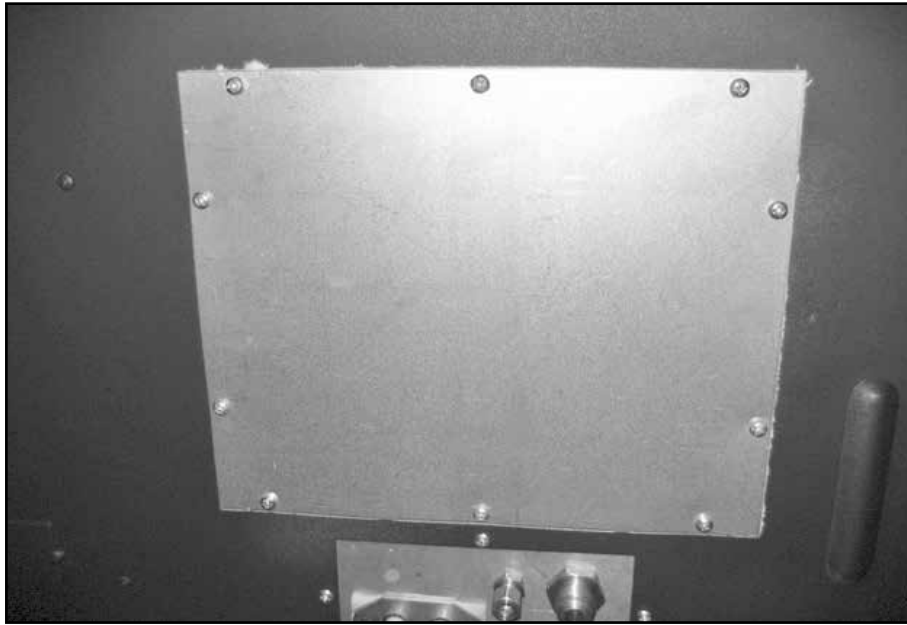

Figure 4: Access cover.
3. Remove access cover to the valve control center from the right side of the firebox (Figure 4).